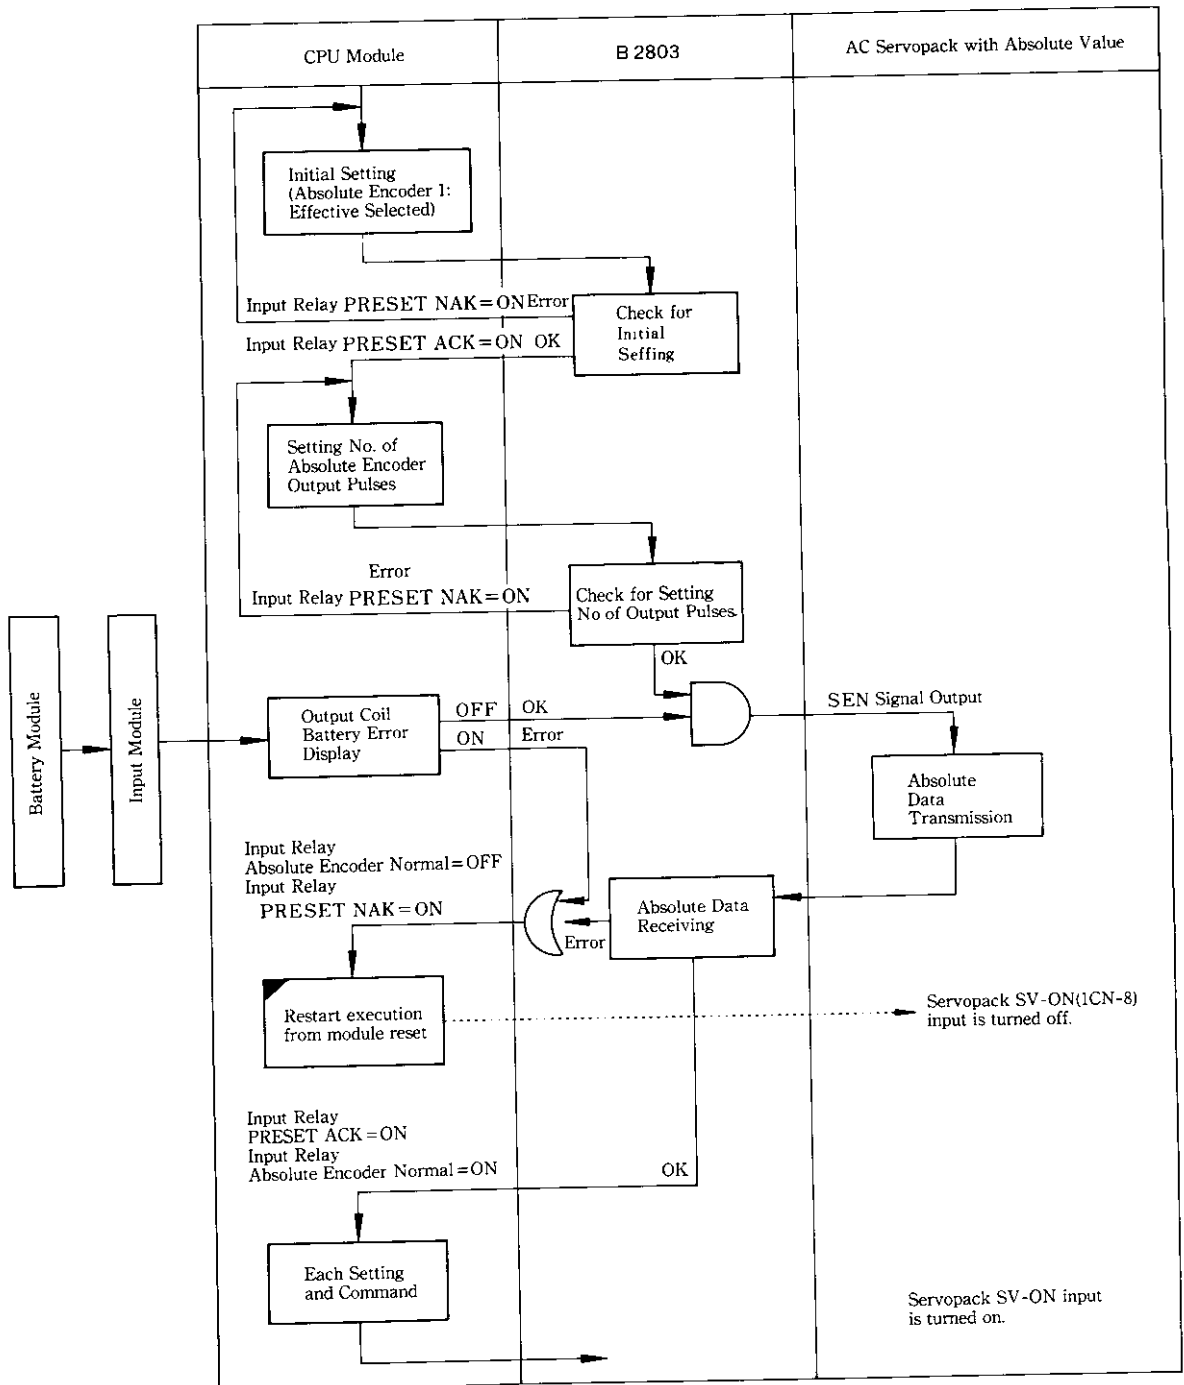

Fig. 4.32 Absolute Value Data Receiving
- (1) B2803 is applicable for a detector either of standard incremental or absolute encoder by initial setting. In absolute value detection, absolute value data can be received by executing the steps as shown in Fig. 4.32.